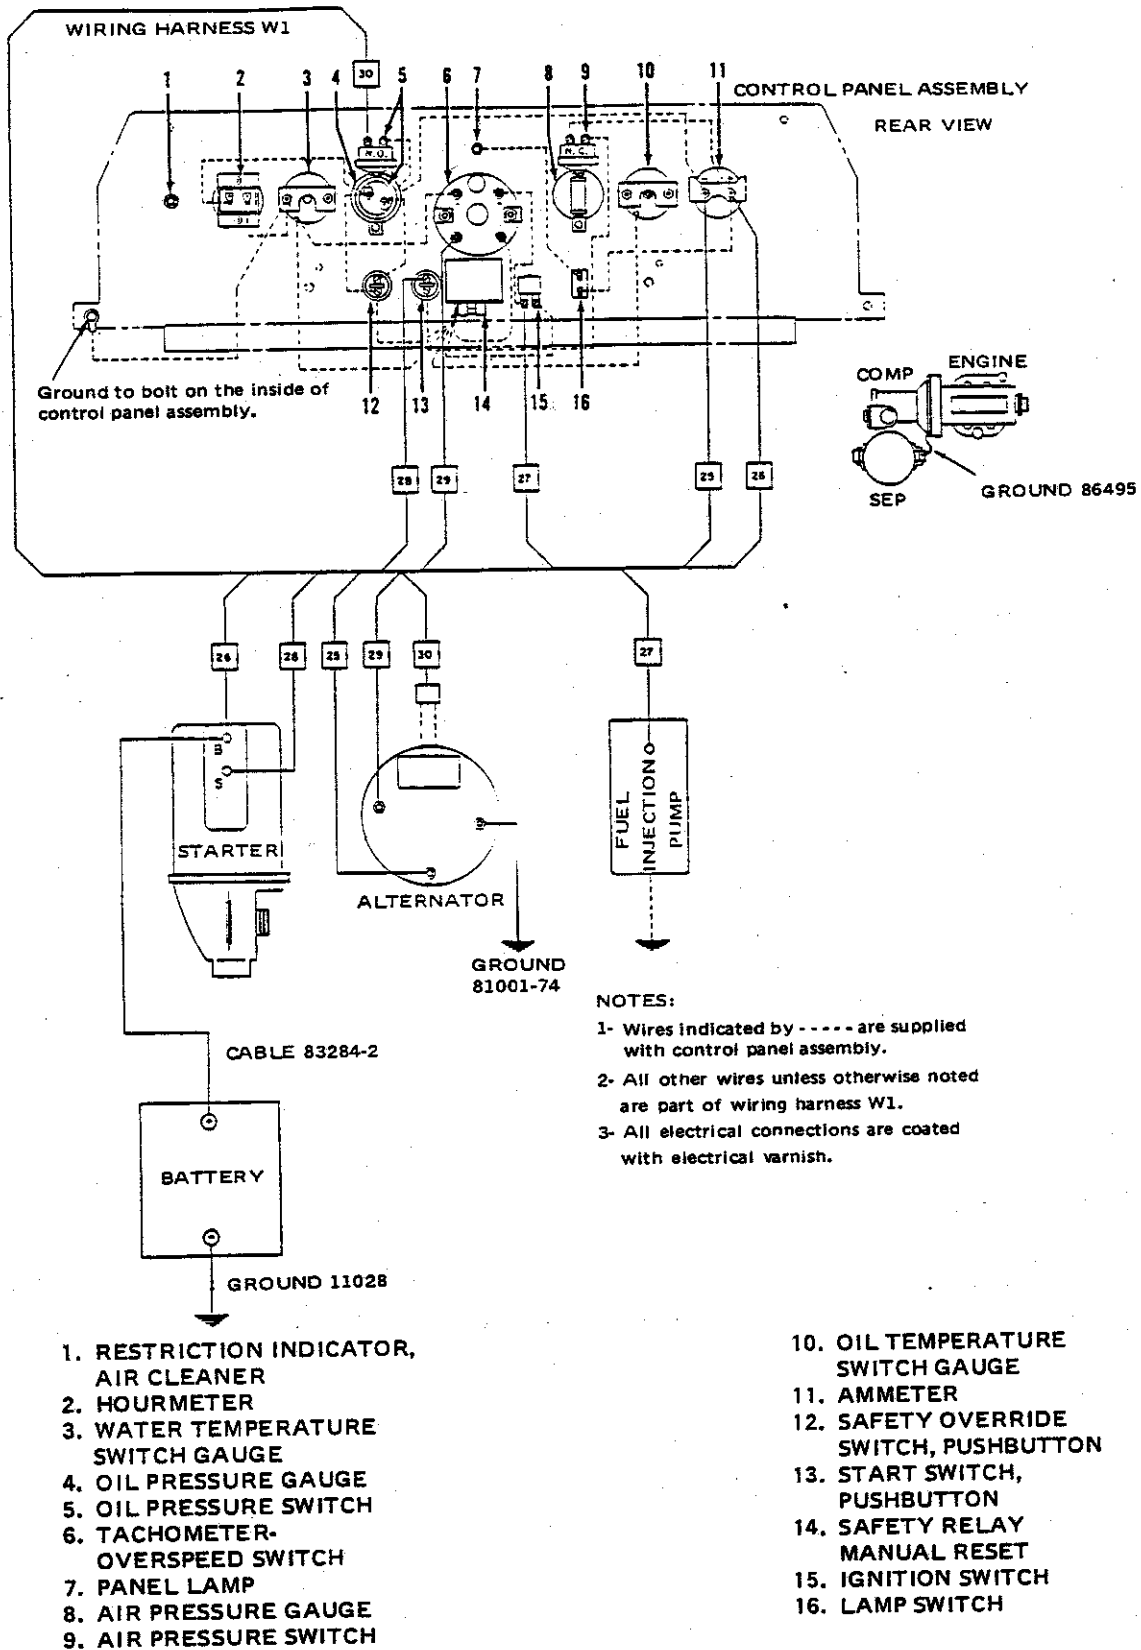

Figure 1-4. Wiring Diagram
1-3.8 Electrical System (18,24,35, Figure 1-2) The 12 volt electrical system consists of an alternator, starting motor and a 12 volt battery. The alternator restores electrical energy to the battery and supplies electrical power to meet load demands of the engine and accessories when the unit is operating. The battery supplies power to the starting motor and to the electrical accessories when the unit is being started. The alternator regulator opens and closes the field circuit, prevents damaging high voltage in the system, prevents overcharging of the battery, and maintains the alternator output within its rated limits. Refer to Figure 1-4.
1-3.9 Compressor Unit Electrical Group. The unit electrical group consists of the control panel wiring, safety shutdown circuit and ignition circuit, refer to Figure 1-4.
6. Connect the battery cables, refer to Figure 1-4.